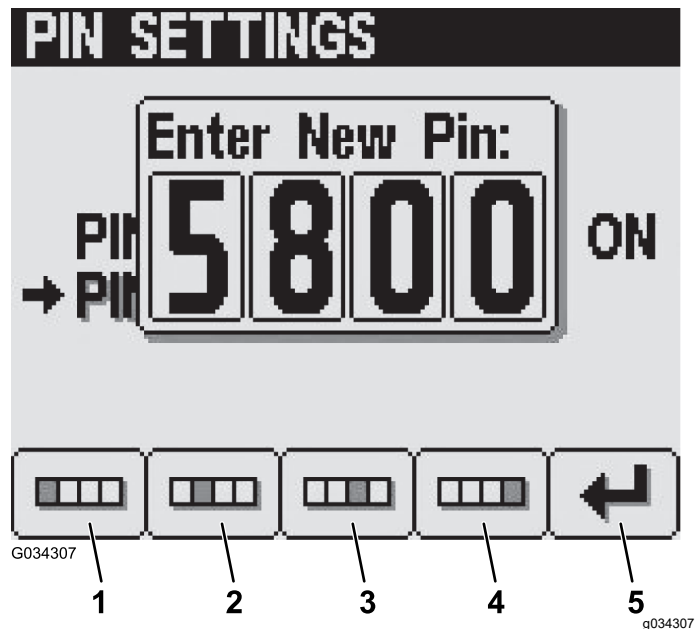

Figure 28
5. At the enter new PIN screen, press buttons 1 through 4 to enter your new PIN code. When you complete entering the PIN, press button 5 (Figure 28).